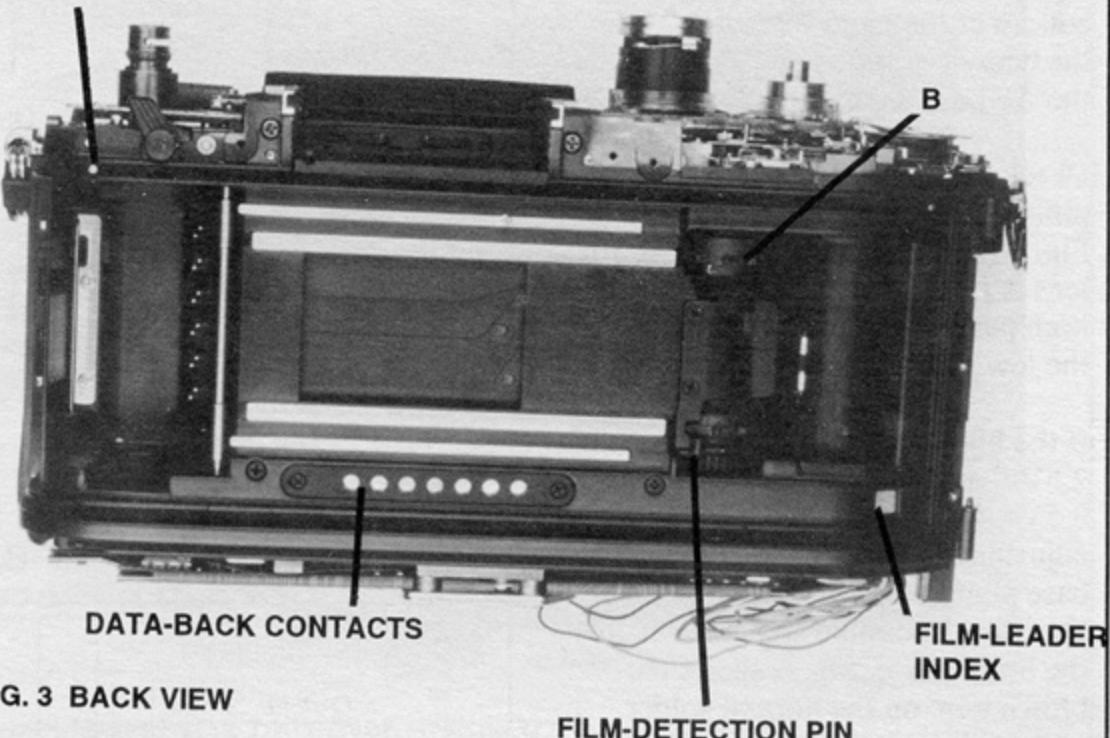
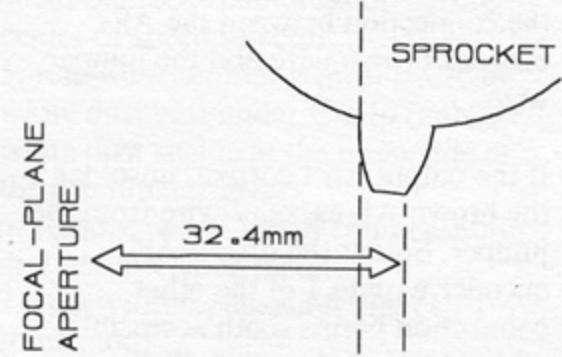

FIG. 3 BACK VIEW
FIG. 5 SPROCKET TIMING
in Fig. 5—32.4mm from the lead edge of the focal-plane aperture.
1. Sprocket timing. Turn the sprocket in the film-advance direction until it latches. Loosen the 2 setscrews at the top of the sprocket (B in Fig. 3) and turn the sprocket to the timed position, Fig. 5.